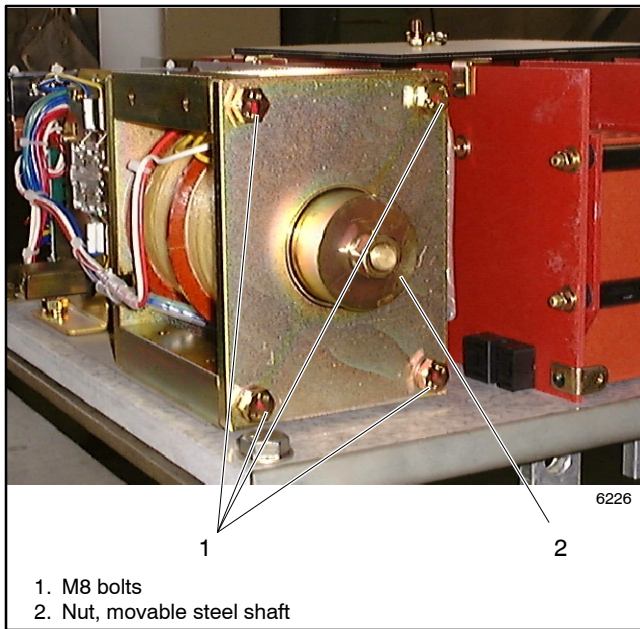

Figure 8-31 Closing Coil Bolts and Nut
4. The closing coil is spring-loaded. Hold the closing coil securely and remove four M8 bolts. Remove the closing coil. See Figure 8-31.
- c. Replace the four M8 bolts. See Figure 8-31.